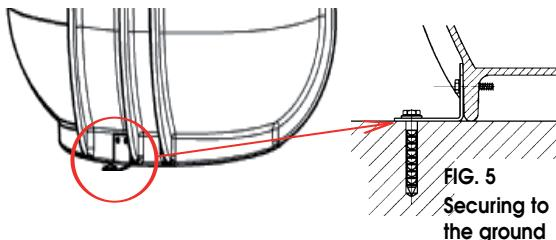

FIG. 5
- In accordance with standard EN 12056-4, the lifting station must be installed in such a way that there are no rotations. It may be secured to the ground, as shown (**See FIG. 5 below**), using the fastenings provided.